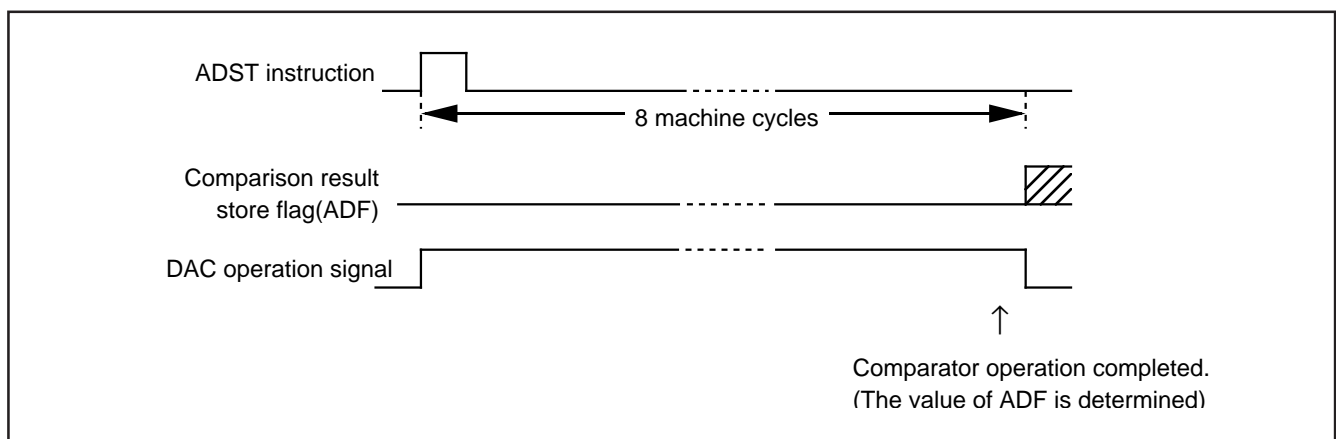

Fig. 28 Comparator operation timing chart
### (12) Comparator operation start instruction (ADST instruction) (Figure 28)